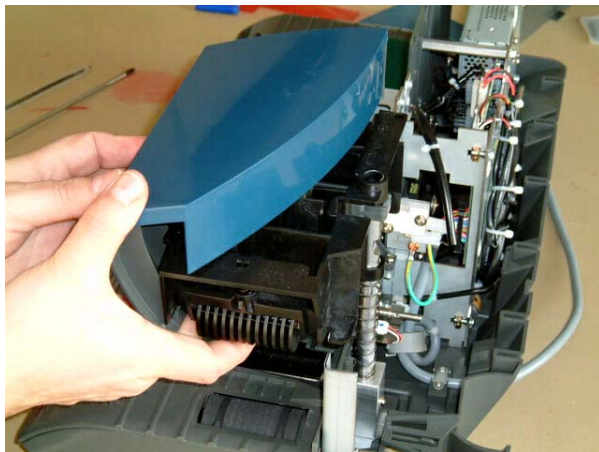

Fig.11
- Press and hold the release button, and remove the roller box from the shaft assembly (Fig.11)